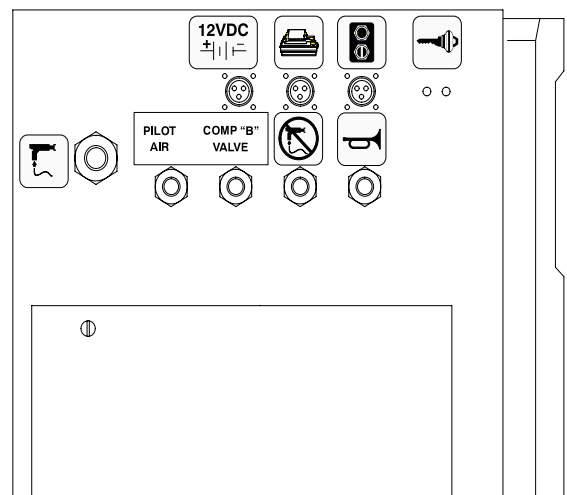

Fig. 2
2. Install the (2) bulkhead fittings (part #113284) into the holes.
3. Apply the label (I.D. #1149) to the ProMix panel as shown in fig. 2.